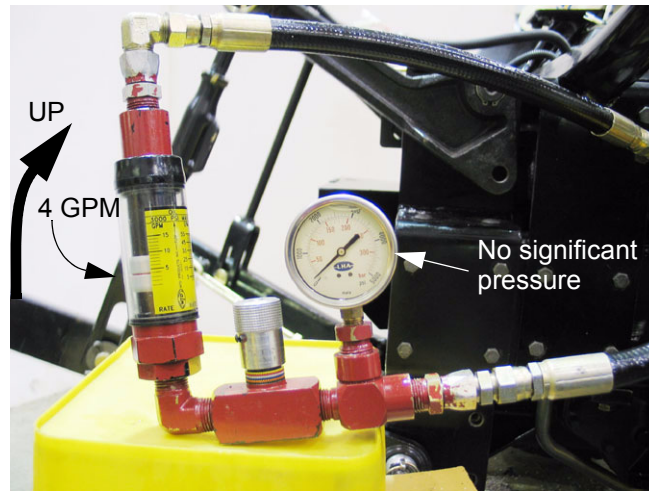

Figure 8.27
- 8.27. As the lift arms travel upward, note the reading on the flow meter. It should be in the vicinity of 5 GPM (19 LPM). See Figure 8.27.